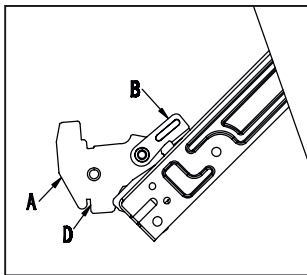

Fig.11-1
- » Open the door completely and lift the 2 levers "B" (fig.11-1).
- » Now, shutting the door slightly, you can lift it out by pulling out the hooks "A" as shown in fig 11-1.